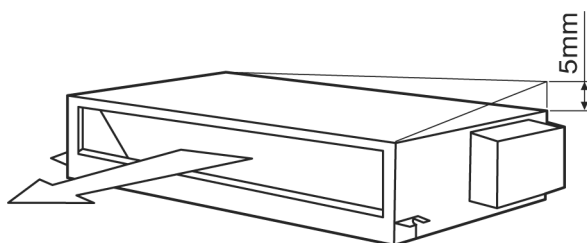

Fig. 4.7 Top Surface Inclination Degree
- (2) As shown in Fig. 4.7, the rear part of indoor unit is slightly lower than its front part (by 0~5mm) so as to facilitate drainage.
- (3) Tighten the suspension nut upon completion of adjustment. It's essential to apply thread locking agent to avoid nut looseness.